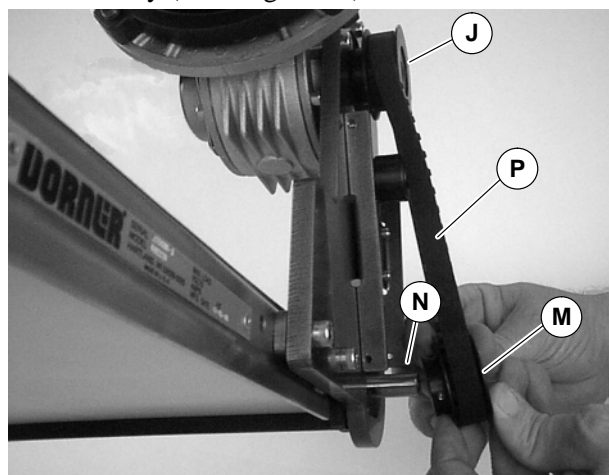

Figure 10
7. Install key (N of Figure 10).